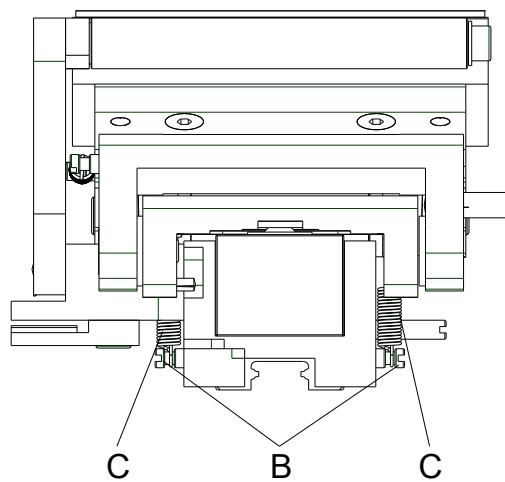

Figure 20
2. Push both tension springs (C, Figure 20) with the tweezers from the pillars (B, Figure 20).